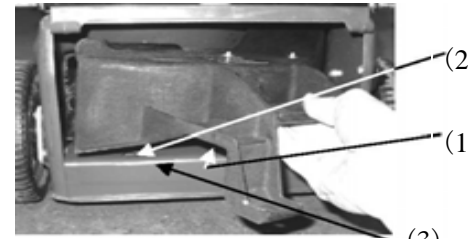

Figure 7. Mulch plug installation (A) - Push Mower
- ★ Insert the long right hand side of the mulch plug first into the rear chute of the mower. Refer to figures 7 and 9.
- ★ Guide the mulch plug out by rotating the shorter left hand side to the right and then guiding the longer right hand section until clear of the mower. Refer to figures 7 and 9